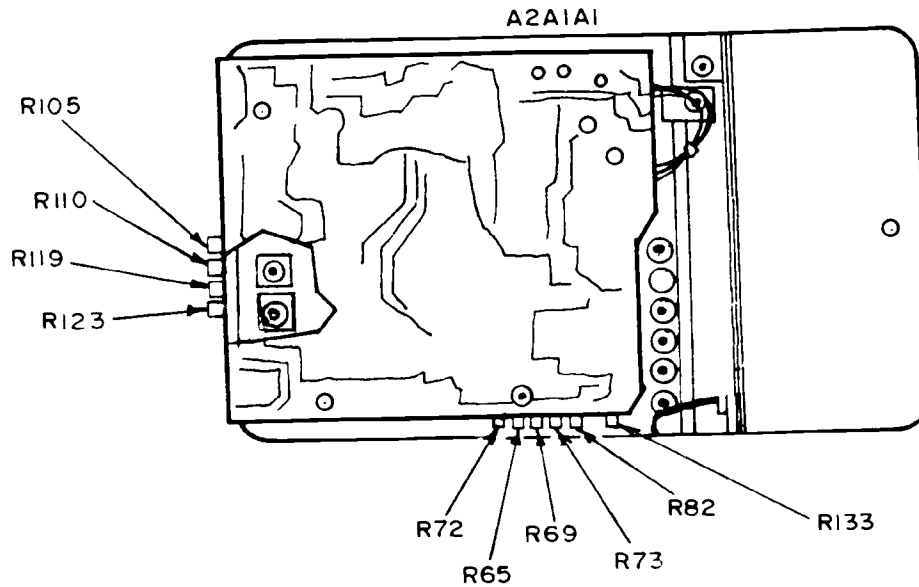

Figure 8. MM-100E multimeter - rear view.
³If out-of-tolerance, adjust calibrator for 10.0000 and adjust A2A1A1R82 (fig. 8) for 10 V indication on multimeter. (R)
¹If required, readjust A2A1A1R123 (fig. 8) for best in-tolerance indication (R).
(13) Set TI multimeter **FUNCTION** switch to **HI-Z** and **RANGE** switch to **1V**.
(14) Connect calibrator to TI multimeter **INPUT**.
(15) Adjust calibrator frequency for 1 kHz frequency and output for a 1 V indication on TI multimeter. If calibrator does not indicate between 0.95 and 1.05 V ac, perform **b (6)** below.
(16) Repeat technique of (15) above for **RANGE** switch settings and calibrator frequencies listed in table 16. Calibrator will indicate within limits specified.
- (1) Adjust A2A1A1R65 (fig. 8) for 0 indication on multimeter.
- (2) Adjust A2A1A1R73 (fig. 8) for 0 indication on multimeter.
- (3) Adjust calibrator output for a 1.00000 indication. Adjust A2A1A1R69 (fig. 8) for a 1V indication on TI multimeter (R).
- (4) Adjust A2A1A1R119 (fig. 8) for ∞ (infinity) on TI multimeter (R).
- (5) Set resistance standard to 30 Ω . Adjust A2A1A1R123 (fig. 8) for 30 Ω indication on TI multimeter (R).
- (6) Adjust calibrator output for a 1 V indication. Adjust A2A1A1R72 (fig. 8) for a 1 V indication on TI multimeter (R).
- (7) Adjust A2A1A1R110 (fig. 8) for 6 dB indication on **SINAD** scale (R).
- (8) Adjust 1 kHz control until audio analyzer indicates 10 percent distortion.
- (9) Adjust A2A1A1R105 (fig. 8) for 10 percent indication on TI multimeter (R).
- (10) Adjust A2A1A1R133 (fig. 8) for 60 percent indication on TI multimeter (R).